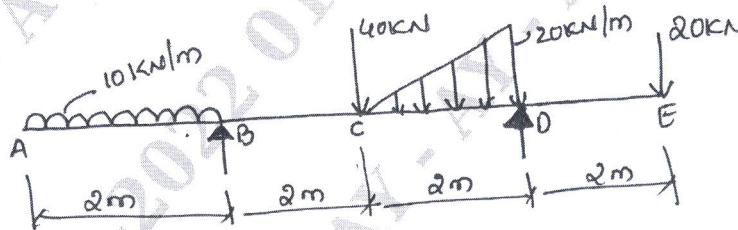

Fig.Q5(b)
- b. Draw SFD and BMD for a overhanging beam shown in Fig.Q5(b) and locate the point of contra-flexure.